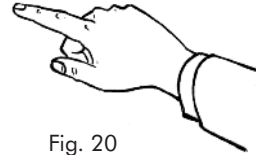

Fig. 20
- Press the **white button** to send the lift to the desired floor (Fig. 20).